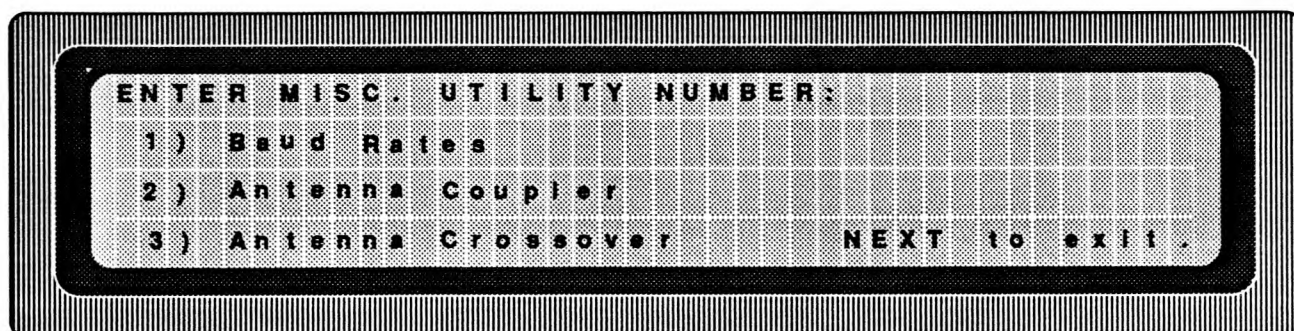
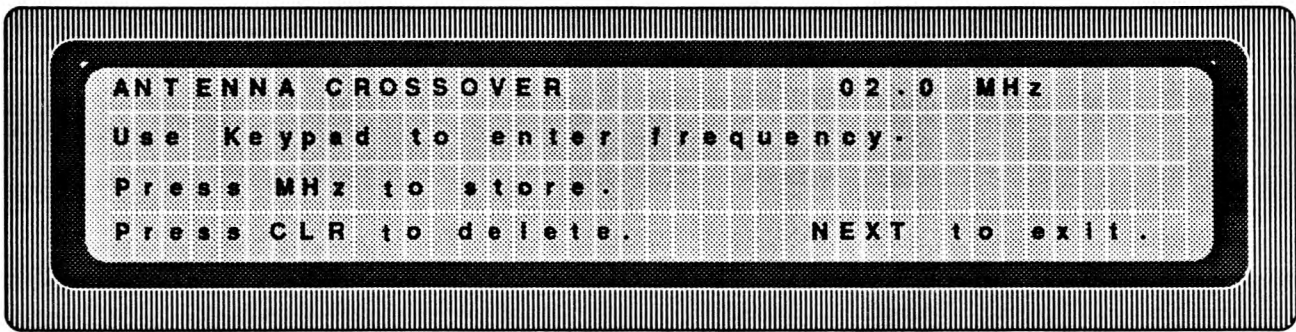

Figure 3-25. Miscellaneous Utilities Menu
Figure 3-30. Antenna Crossover Display
3-17.1 INTRODUCTION. The miscellaneous utilities allow control of three functions of the TCS-5; the serial I/O port baud rates; control of the 7057 Antenna Coupler; and frequency selection of the antenna crossover feature. Figure 3-25 is the menu for the Miscellaneous Utilities feature.
a. Select Miscellaneous Utilities (6) from the Set Chirp menu (Figure 3-2). Select Antenna Crossover (3) on the Miscellaneous Utilities menu, Figure 3-25. This brings up the Antenna Crossover Display, Figure 3-30.